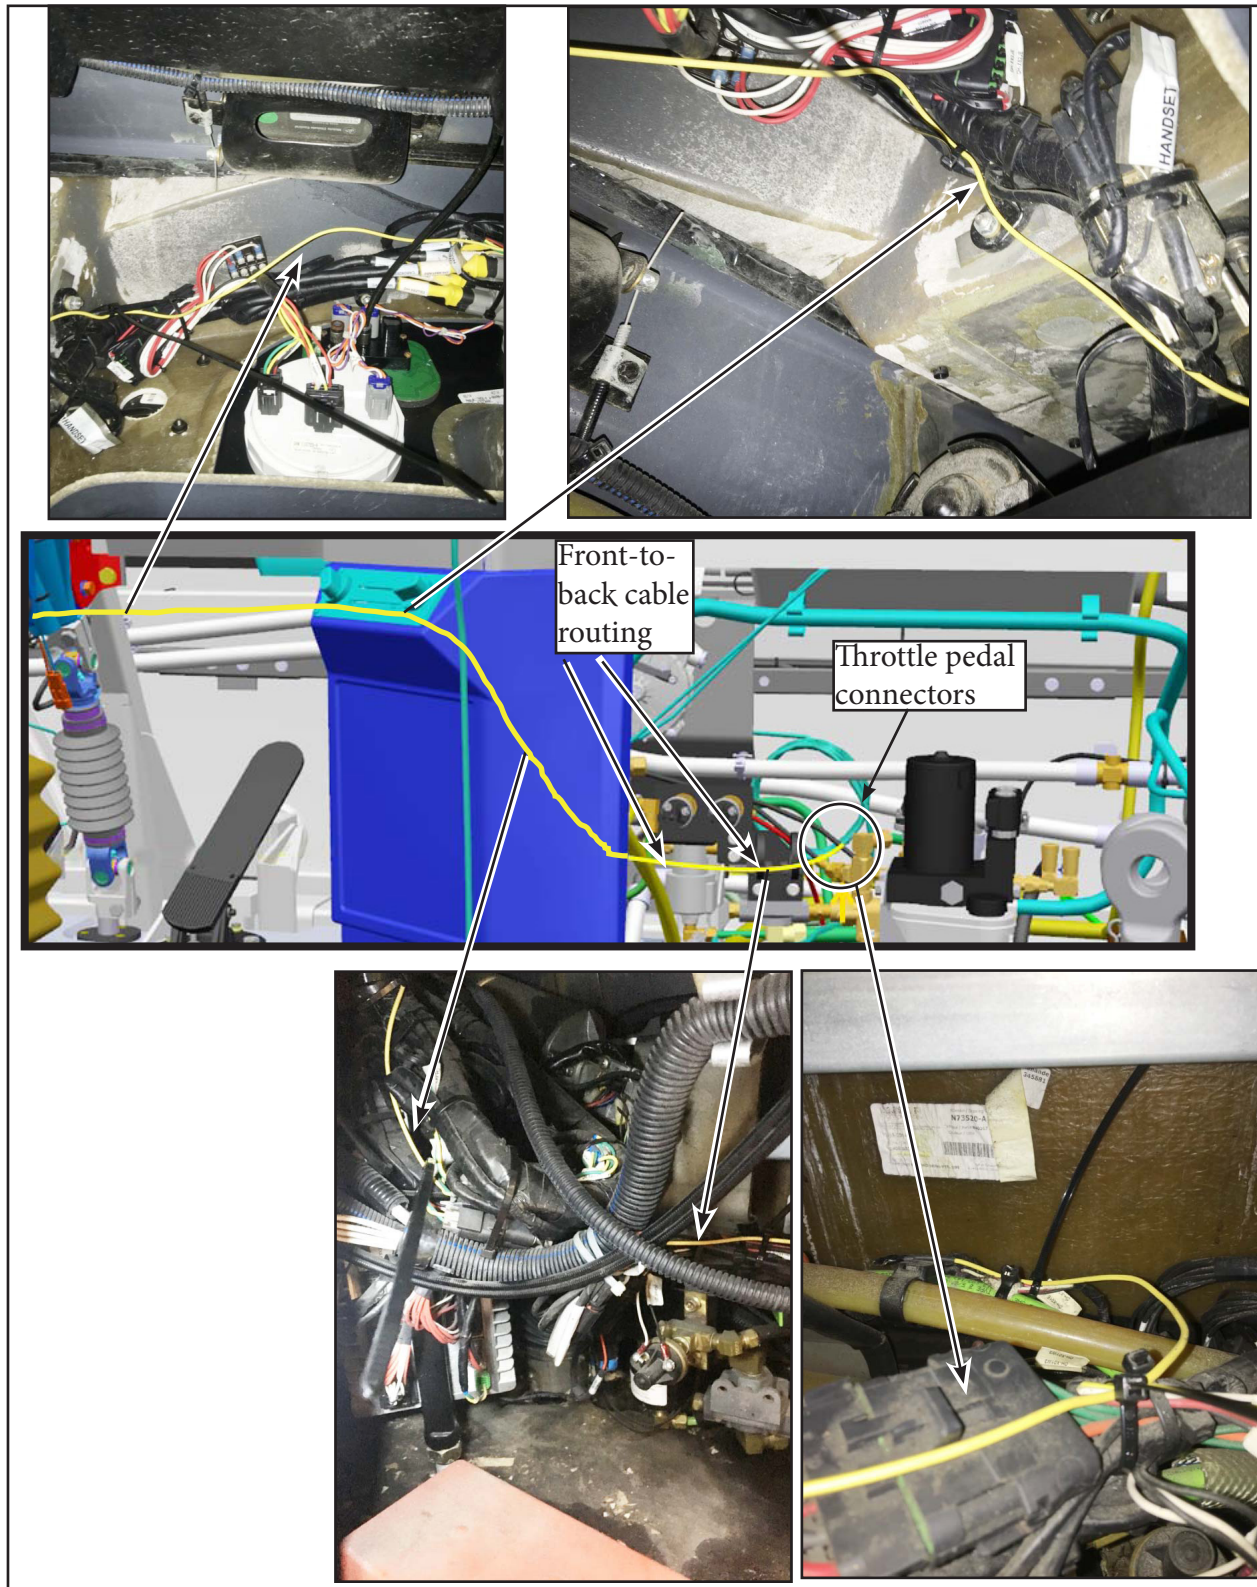

Figure 18 - Front-to-Back Cable Routing
- 2.5. Start the front to back cable routing at the throttle pedal connectors and route under the dash towards the throttle pedal (see Figure 18).